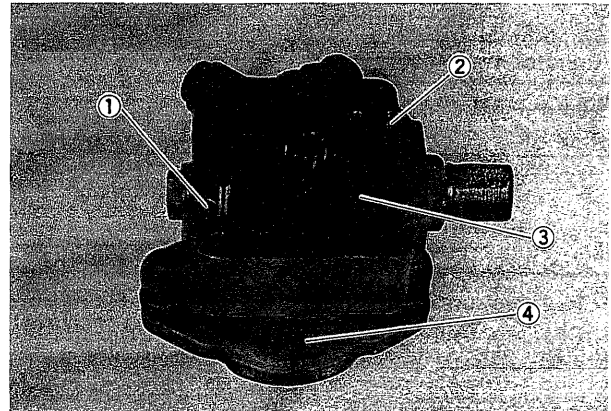

Fig. 17
- 3) Remove bolts ① and ② using a hex. wrench, and separate valve body ③ from pump body ④. (Fig. 17)